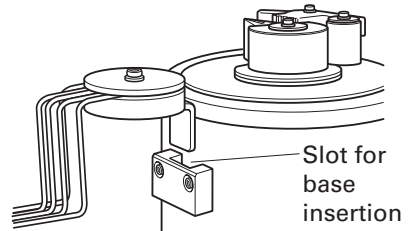

Fig. 17
- (1) Insert the base of the deflection guard into the slot of the rebar cutter/bender. (Fig. 17)